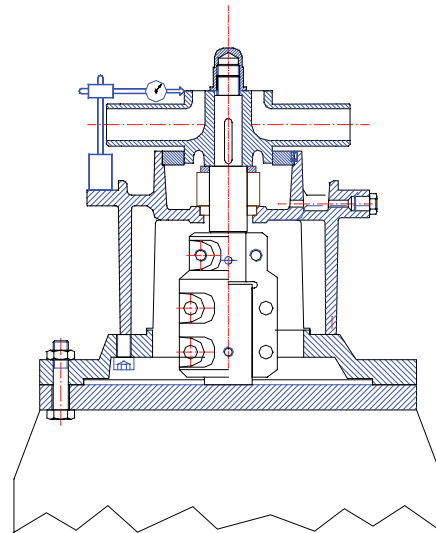

Figure 4
8. Connecting a magnetic comparator to the adaptor as shown in Figure 4, check the shaft and face runout on the front wear ring. In this way, the maximum allowable shaft runout shall be 0.05 mm. If the runout is more than the maximum allowable value, by loosening the bolts of the rigid coupling a little bit and then hitting slightly the shaft nut, ensure that shaft runout is removed. Then, screw the rigid coupling bolts securely. At this instance, you can also align the position of the impeller in the axial direction.